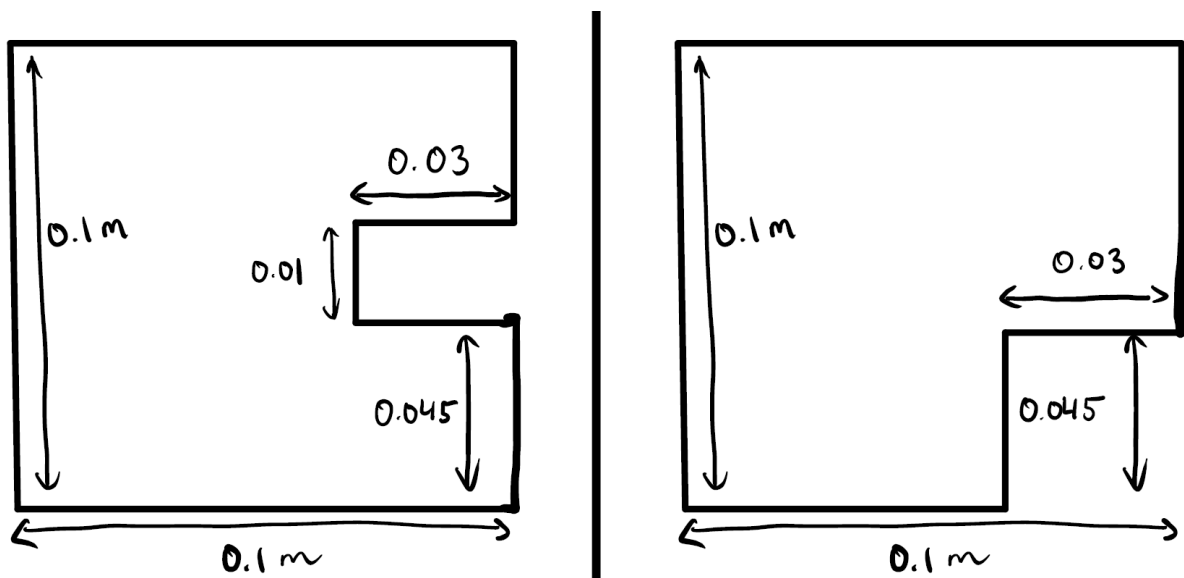

Figure 1: Sketch of domain for Case 1b.
- b. For one of the velocities investigated in task a., introduce a baffle and a corner for the cavity as sketched in figure 1. Describe how these features influence the flow in the cavity.